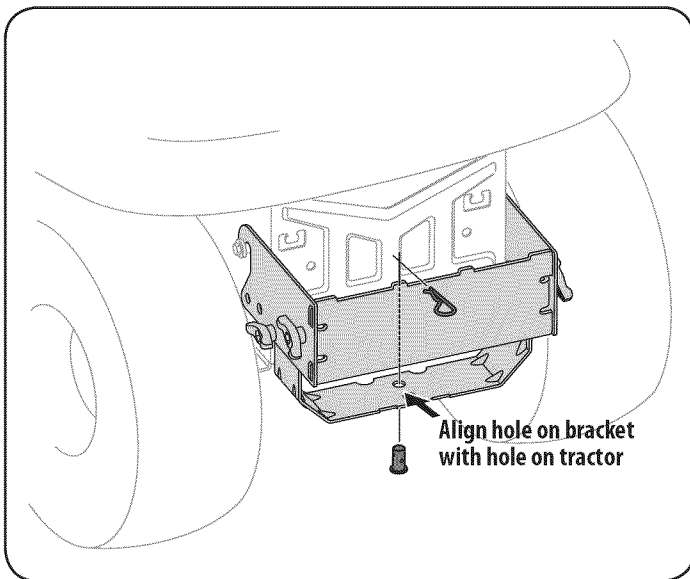

Figure 6
3. Install the clevis pin (711-0309A) from hardware pack 689-00312 into the tractor's hitch and the assembly's hitch support and secure with a hairpin clip (714-0117). See Figure 6.